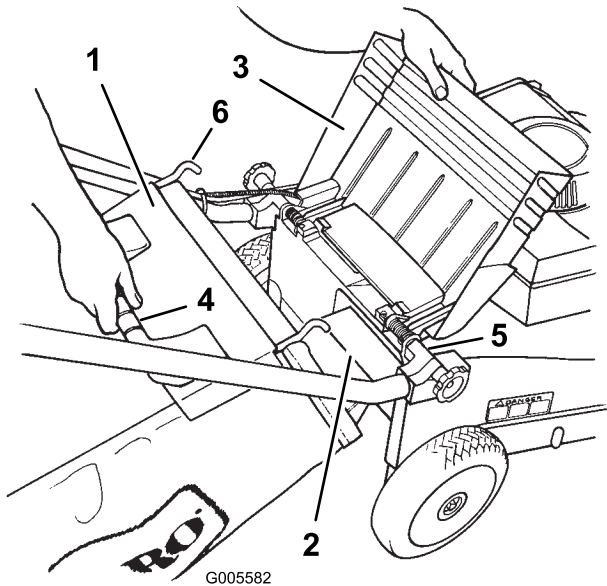

Figure 15
2. Raise the discharge door, slide the bag ramp attached to the grass bag into the discharge opening, and hook the bag frame onto the rounded portion of the mounting brackets (Figure 15).